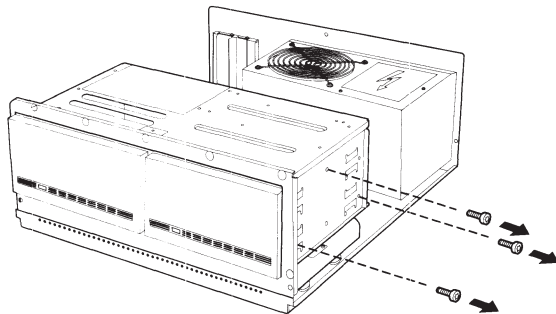

Figure 7-52. Fixed Disk Drive Retaining Screws.
4. Remove the three retaining screws securing the fixed disk drive to the expansion unit (Figure 7-52).